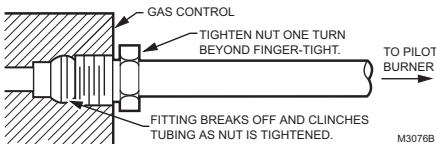

Fig. 6. Always use new compression fitting.
- Push the tubing into the pilot gas tapping on the outlet end of the control until it bottoms. While holding tubing all the way in, slide compression flitting into place and engage threads—turn until finger tight. Then tighten one more turn with a wrench. Do not overtighten. Refer to Fig. 6.